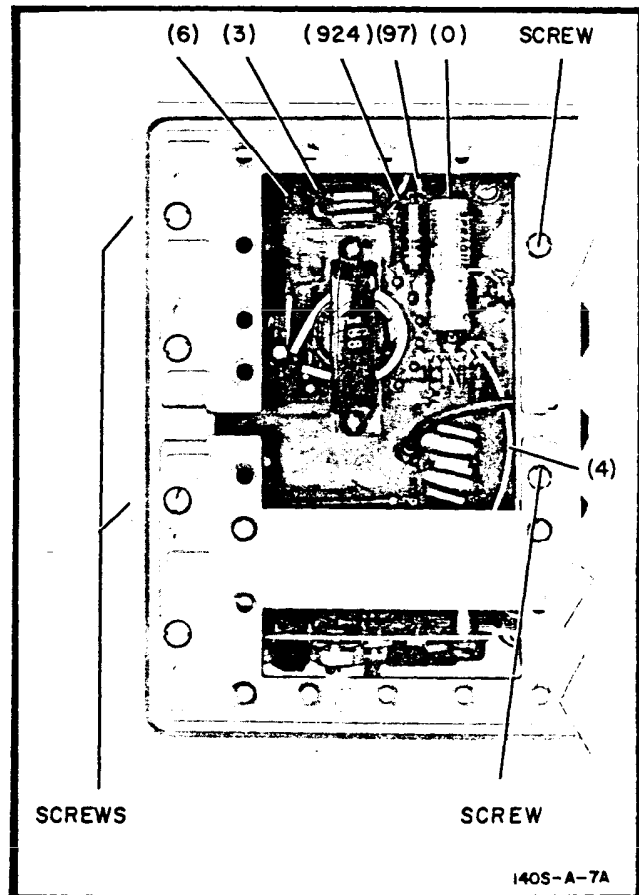

Figure 8-1. High Voltage Rectifier Deck Removal
Most of the components on the high voltage deck can be replaced without removing the assembly. Other components can be replaced by moving the deck part way out (without disconnecting wires). Refer to Figure 8-1 for mounting screw and wire identification; use the following procedure for removing the high voltage deck.
- b. Disconnect 6 wires from the board and remove the 4 board mounting screws; see Figure 8-1 for wire and screw identification.